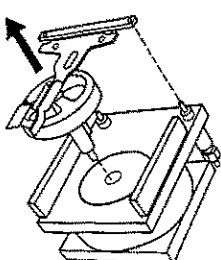

Fig. 21
Hold the part shown by arrow in Fig. 21 and slowly remove it without damaging (24) FLEXIBLE BEARING ASSY.